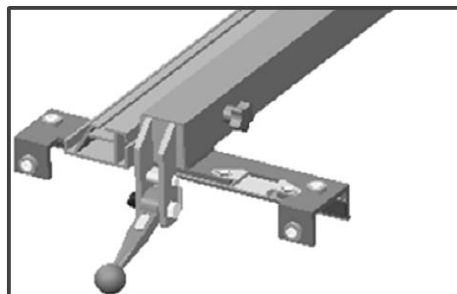
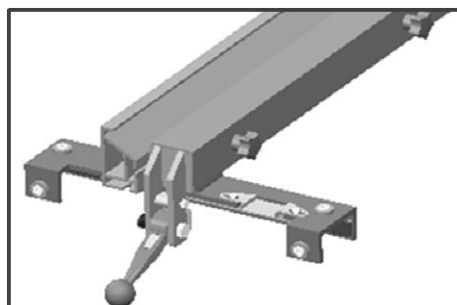

Figure 28: Low Position
Figure 29: High Position
2. Turn the aluminum plate to low Location (See Figure 28), then reinstall the aluminum plate to fence.
3. Retighten the three knobs (A) .
4. The High location (See Figure 29) steps same as Low position